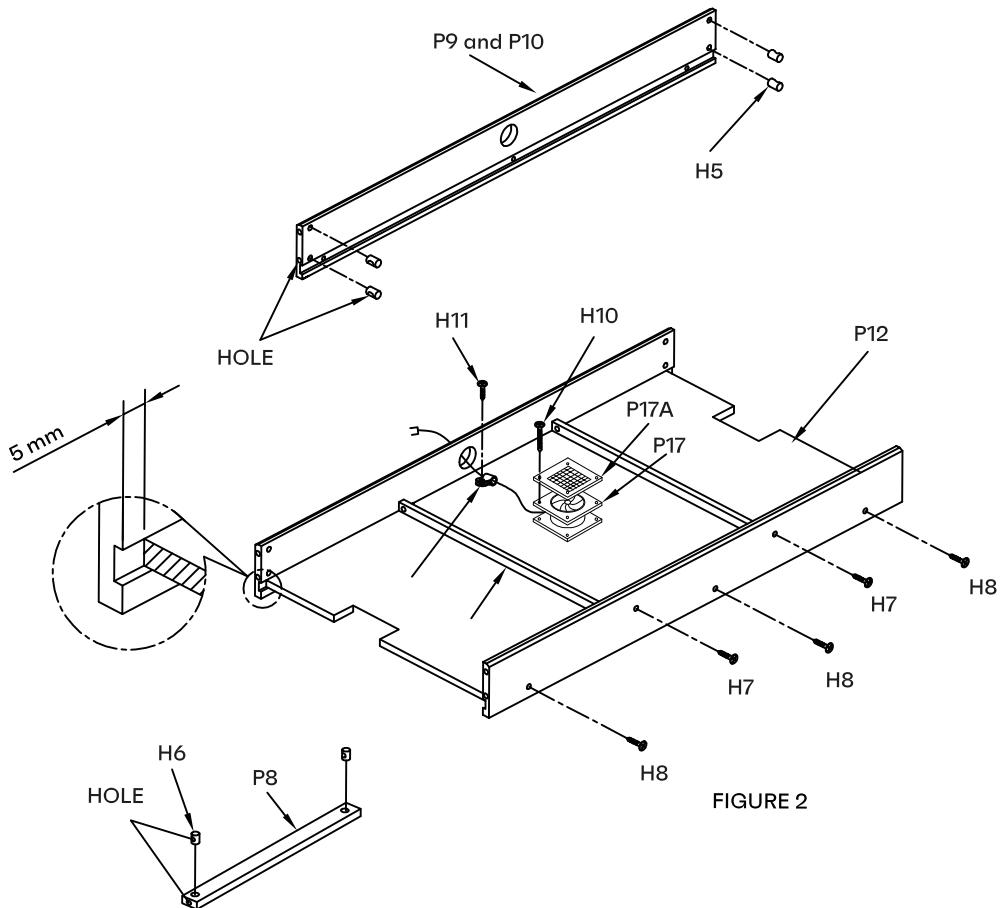

FIGURE 2
5. Insert the nut H5 into the hole of the hockey side panel P9 and P10 as shown in figure 2.
6. Slide playfield P12 into the groove on the side panels and attach it with H8 see figure 2.
7. Insert the nut H6 into the hole of the support braces P8 as shown in figure 2. And attach it with screws H7 .
8. Attach the motor and motor cover as shown in figure 2 (the logo face inside).